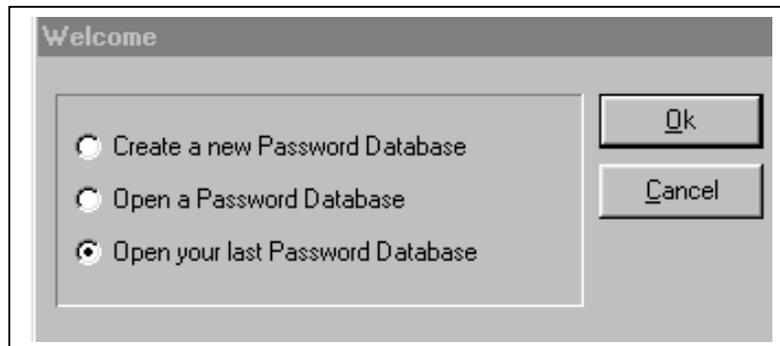
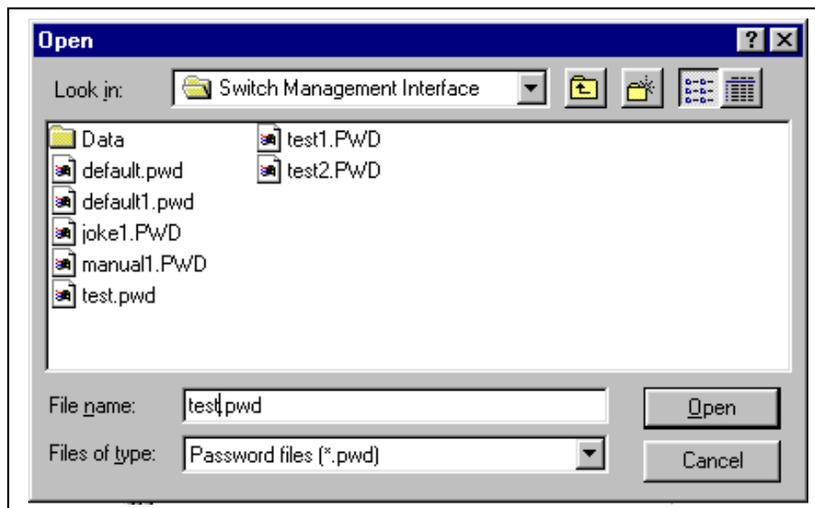

Figure 5.5. Options menu
Figure 5.6. Opening or creating a password file
1. Select **Open a Password Database** from the Options menu, (see Figure 5.5).
2. Locate the database file (see Figure 5.6, on the next page)
1. Select **Create a new Password Database** from the Options menu (see Figure 5.5 on page 5-10). Type in a name for the new password file or the system will automatically assign the new name as “default” (see Figure 5.6 below).